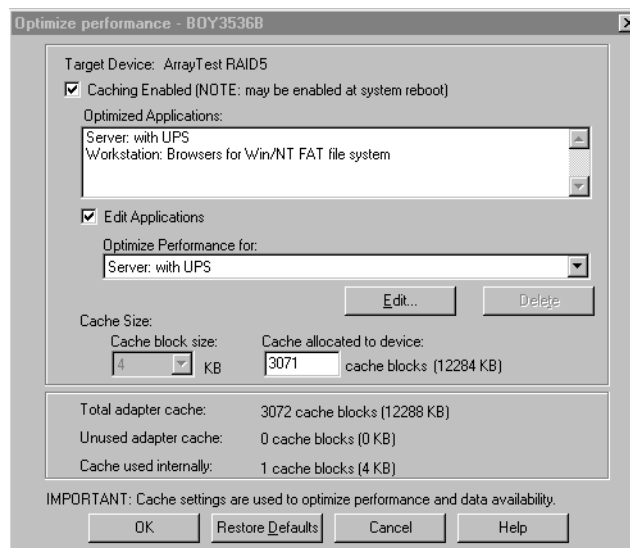

Figure 10-1. Optimize Performance Dialog Box
- 2 Right-click on the **Array** icon  and select **Optimize Performance** from the drop-down menu. The Optimize Performance dialog box appears, as shown in Figure 10-1.